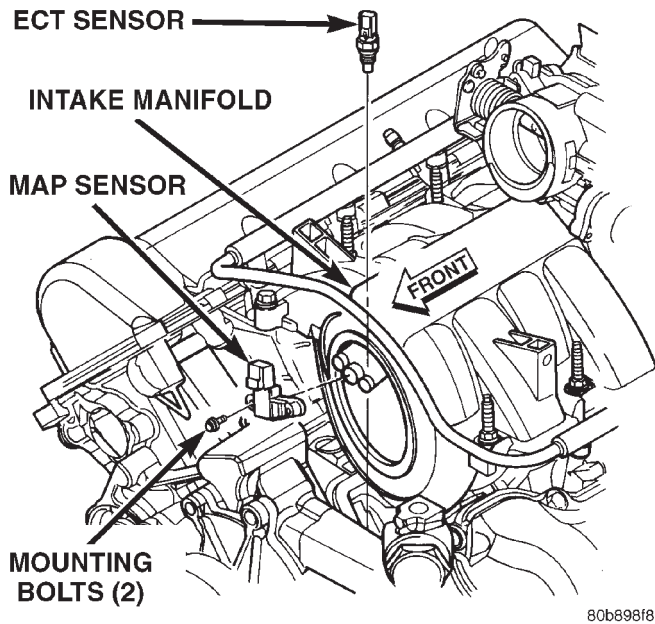

Fig. 31 MAP and ECT Sensor Locations—4.7L V-8 Engine
The MAP sensor is located on the front of the intake manifold (Fig. 31). An o-ring seals the sensor to the intake manifold.
- (1) Disconnect electrical connector at sensor.
- (2) Clean area around MAP sensor.
- (3) Remove 2 sensor mounting bolts (Fig. 31).
- (4) Remove MAP sensor from intake manifold.